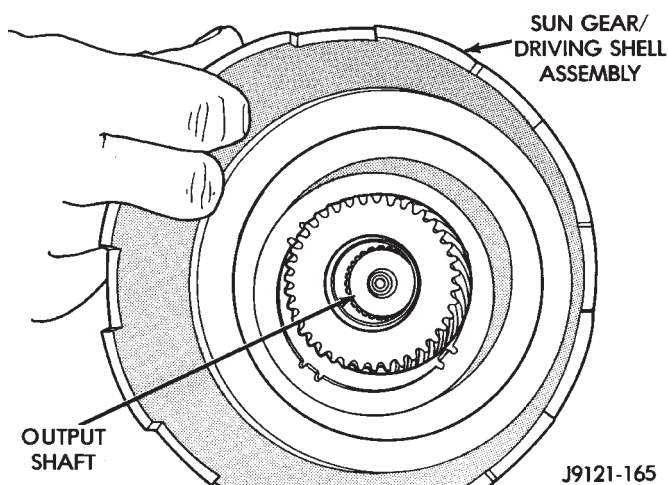

Fig. 88 Installing Assembled Sun Gear And Driving Shell On Output Shaft
(12) Install assembled driving shell and sun gear on output shaft (Fig. 88).